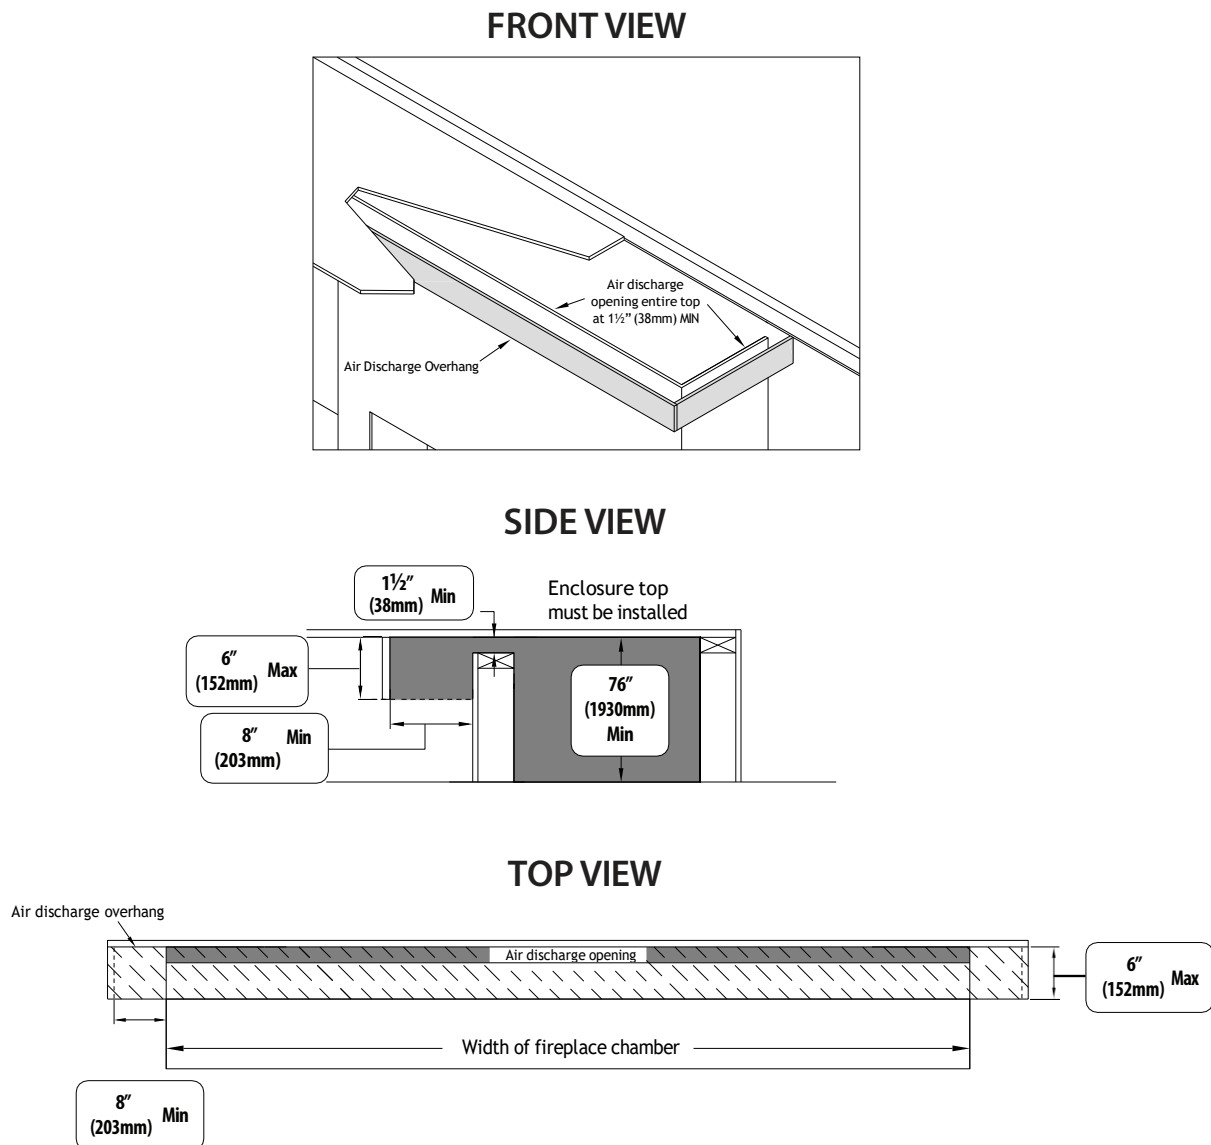

Figure 3.21, Top Vented Cavity Alternative Installation with Overhang
- Figure 3.21 shows an alternative installation for the top vented cavity option with an air discharge overhang in front of the air discharge opening. This installation method can provide a means to visually hide the air discharge opening.